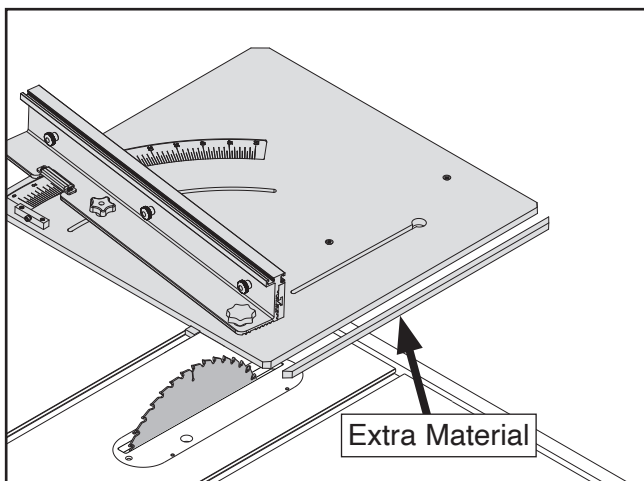

Figure 11. Extra material cut from sled base (blade guard removed for clarity).
21. Feed sled forward all the way through blade while maintaining firm forward and downward pressure on sled to cut extra material from sled base (see **Figure 11**).